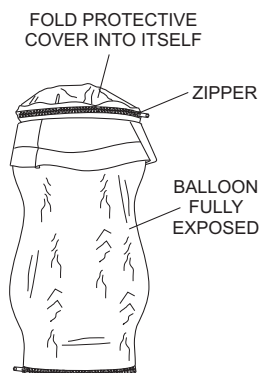

Figure 17. Folding Balloon Cover
4. Fold the balloon cover into itself and zip it up. See Figure 17.